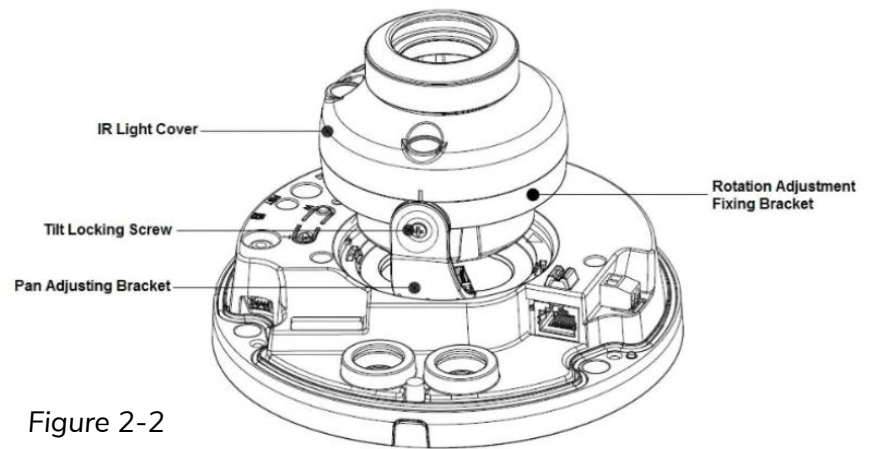

Figure 2-2
Step 5 Adjust the lens to the needed angle according to the application requirements of the location. Hold the screw location of the rotation bracket on both sides, turn the rotation bracket horizontally, adjust the lens direction horizontally to the target position; unscrew the two locking screws on both sides (do not remove them completely, just make them loose), hold the IR light decoration cover to make the lens rotate vertically, adjust the vertical direction of lens to a proper monitoring angle, then tighten the locking screws on both sides; Hold the IR light decoration cover to rotate horizontally, adjust the image and adjust the lens horizontal direction to the targeted location. See Figure 2-2.